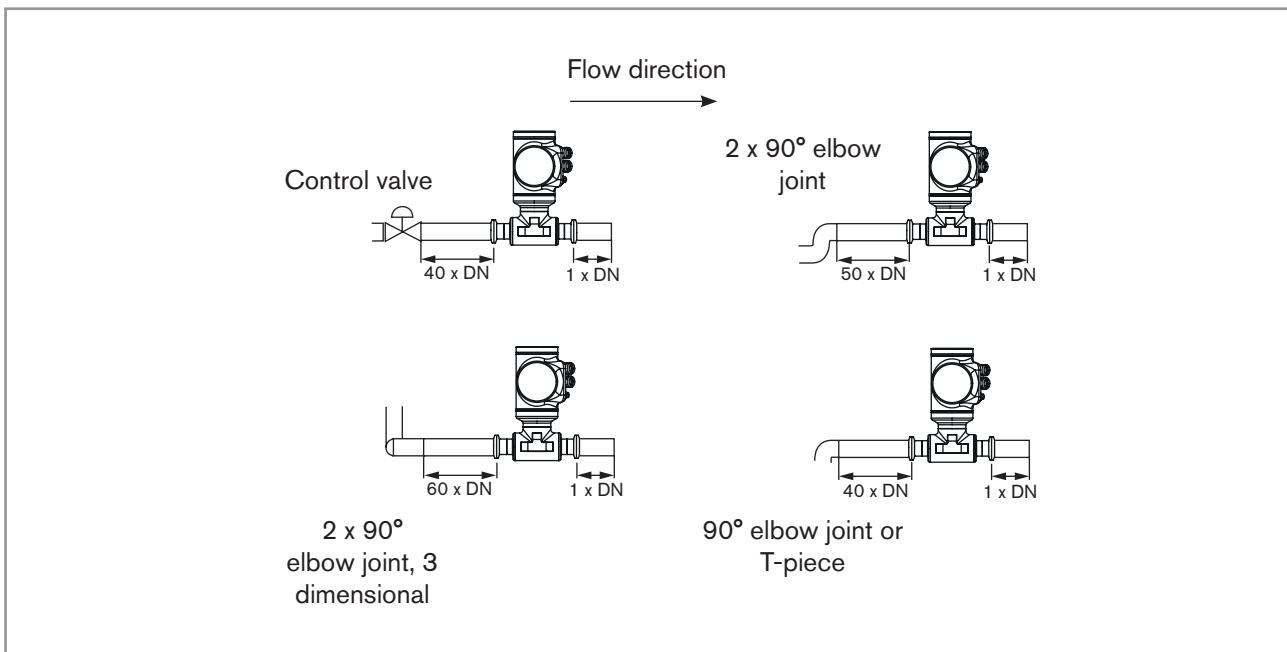

Fig. 14 : Upstream and downstream straight distances for special pipe designs
- Install the device upstream a valve or any equipment that changes the pipe diameter or the pipe direction. If the recommendation cannot be complied with, install the device in the pipe in such a way that the straight downstream distances are satisfied depending on the design of the pipes, refer to standard ISO 9104:1991 and Fig. 14. If these recommendations cannot be complied with, contact Bürkert.